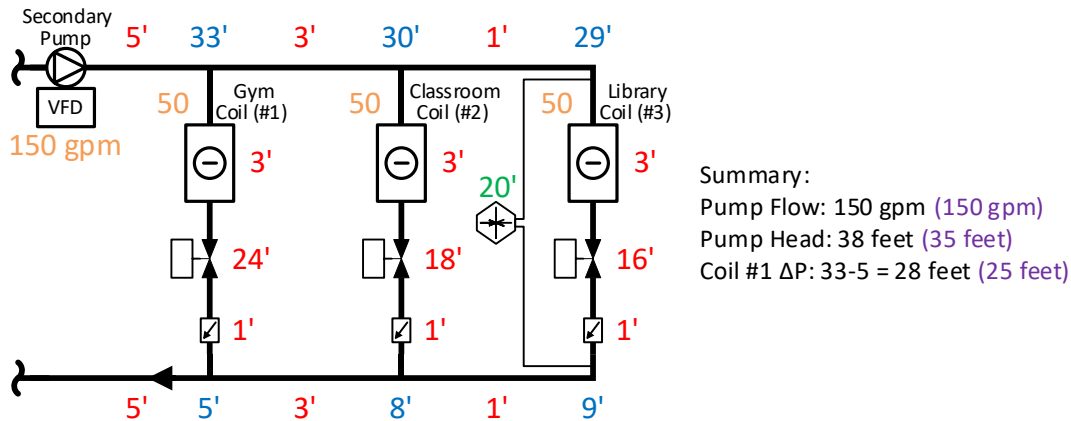
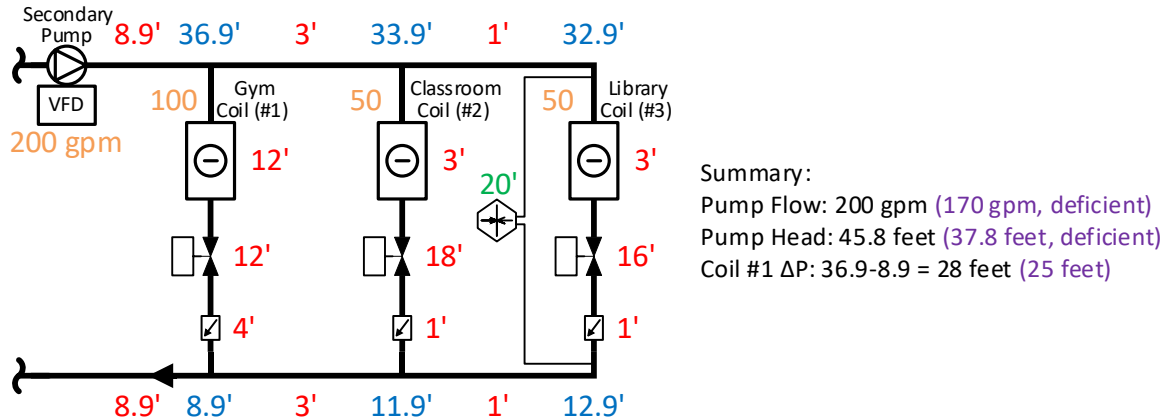
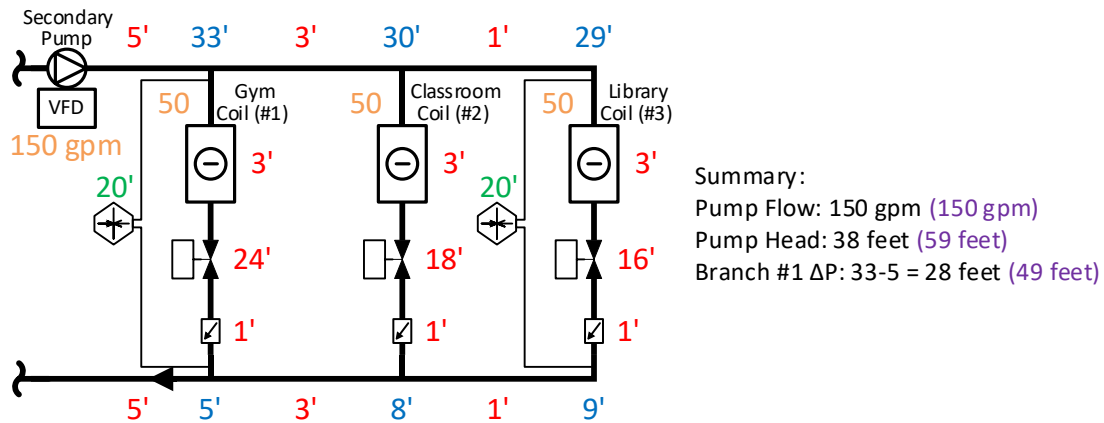
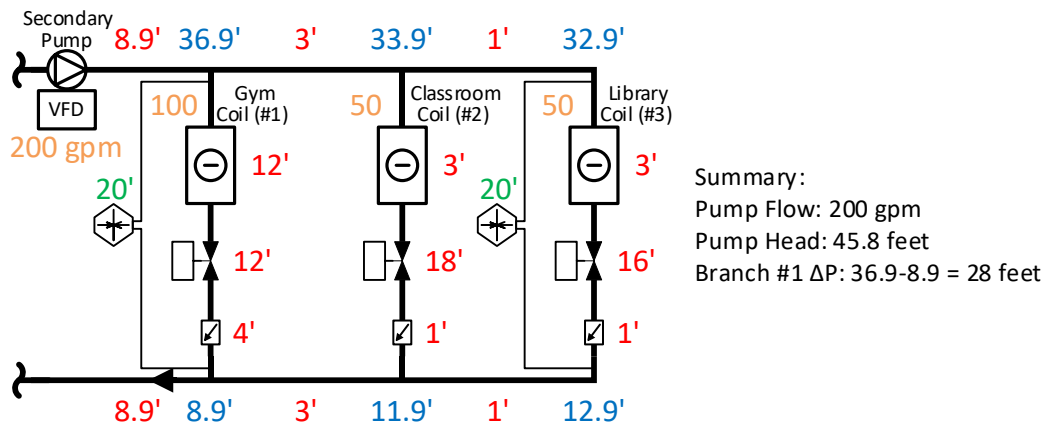

Figure 3 – Balanced ABV CHW System (at 50% Load)
Figure 4 – Balanced ABV CHW System (Saturday Basketball Game)
Figure 7 – Balanced ABV CHW System, Dual DP Sensors (at 50% Load)
Figure 10 – Balanced ABV CHW System, Dual DP Sensors (Saturday Basketball Game)
*****NOTE:** *In Part 1 of our previous newsletter, Figure 4 had a minor math error. The figure has been corrected and replaced on the website. We apologize for any confusion.*
Next, let's look at the same part load case with each coil receiving 50 gpm. We can determine each of the numbers via the same logic as presented in Part 1. However, due to the variable nature of the ABV (spring-loaded piston), we will have to apply some different logic. Since a circuit setter is a fixed geometry, it limits flow at all flow conditions. Whereas with an ABV, it can "open up" during part load conditions. This should make sense: as the flow decreases the pressure drop across the ABV will decrease as well. This allows the spring to decompress and open further and further, until the spring is no longer compressed. So, with a circuit setter and 50 gpm to each coil, we still had 8.3 feet of drop for branch # 1. However, with an ABV, we only have 1 foot. This can be seen in Figure 3.
It is worth noting that ABVs do not assist at all with balancing at part load. If you compare Figure 3 in Part 1 to the figure above, you can see that the circuit setter on branch 1 took 8.3 feet of the pressure drop, so the valve only needed to absorb 13.7 feet. Here, the valve is forced to absorb all the pressure drop since the ABV has opened up all the way. This in general is not a problem, however various situations could result in the pressure drop becoming high enough across the valve to cause noise. In short, most noisy valves are the result of other hydronic issues, versus the fault of the ABV.
Recall our example from Part 1 where we had a Saturday basketball game. In short, we wanted full load on coil #1, and part load on coil #2 and 3. What happened was we were only able to get 70 of the 100 gpm through coil #1. To fix that, we had to either 1) open up the circuit setter on branch #1 and ruin our balance, or 2) increase the DP setpoint (in green). The second was our easiest option, so we did that. We also discussed that it was likely the DP would never get reduced back to the correct value, resulting in long-term energy losses. Let's look at the same situation with ABVs, shown in Figure 4.
Note that in Figure 7, we do have some interesting differences, vs Part 1, Figure 7. Due to the fact the ABV on branch #1 can “open up” at different operating points, we only need a 20 feet setpoint (vs the 49 feet setpoint for the corresponding circuit setter example). As such, you may note that Figure 7 is the same as Figure 3 in the article above! In other words, you have spent the additional monies for a DP sensor that is not needed for control (could be a nice “for reference only” data point however). As further proof of the DP sensor being unnecessary, see Figure 10.
Much like Figure 7 is the same as Figure 3, Figure 10 is identical to Figure 4. The actual pressure drop across branch #1 is 28 feet (vs the setpoint of 20 feet), so the pump is controlling to the original DP sensor on branch #3. In fact, if you want to further prove this, you can do your own figure with 0 gpm to coils #2 and 3 and 100 gpm to coil #1. The 20 feet setpoint on coil #3 is still sufficient to cause coil #1 to operate at 100 gpm as desired. The only situation where that would not be the case would be if the coil #1 pressure drop was greater than the pressure drop of coil #3. In that situation, a second DP sensor could be of benefit. However, this is such a rare operating condition that the added cost is likely not justified given the fact it might never happen.